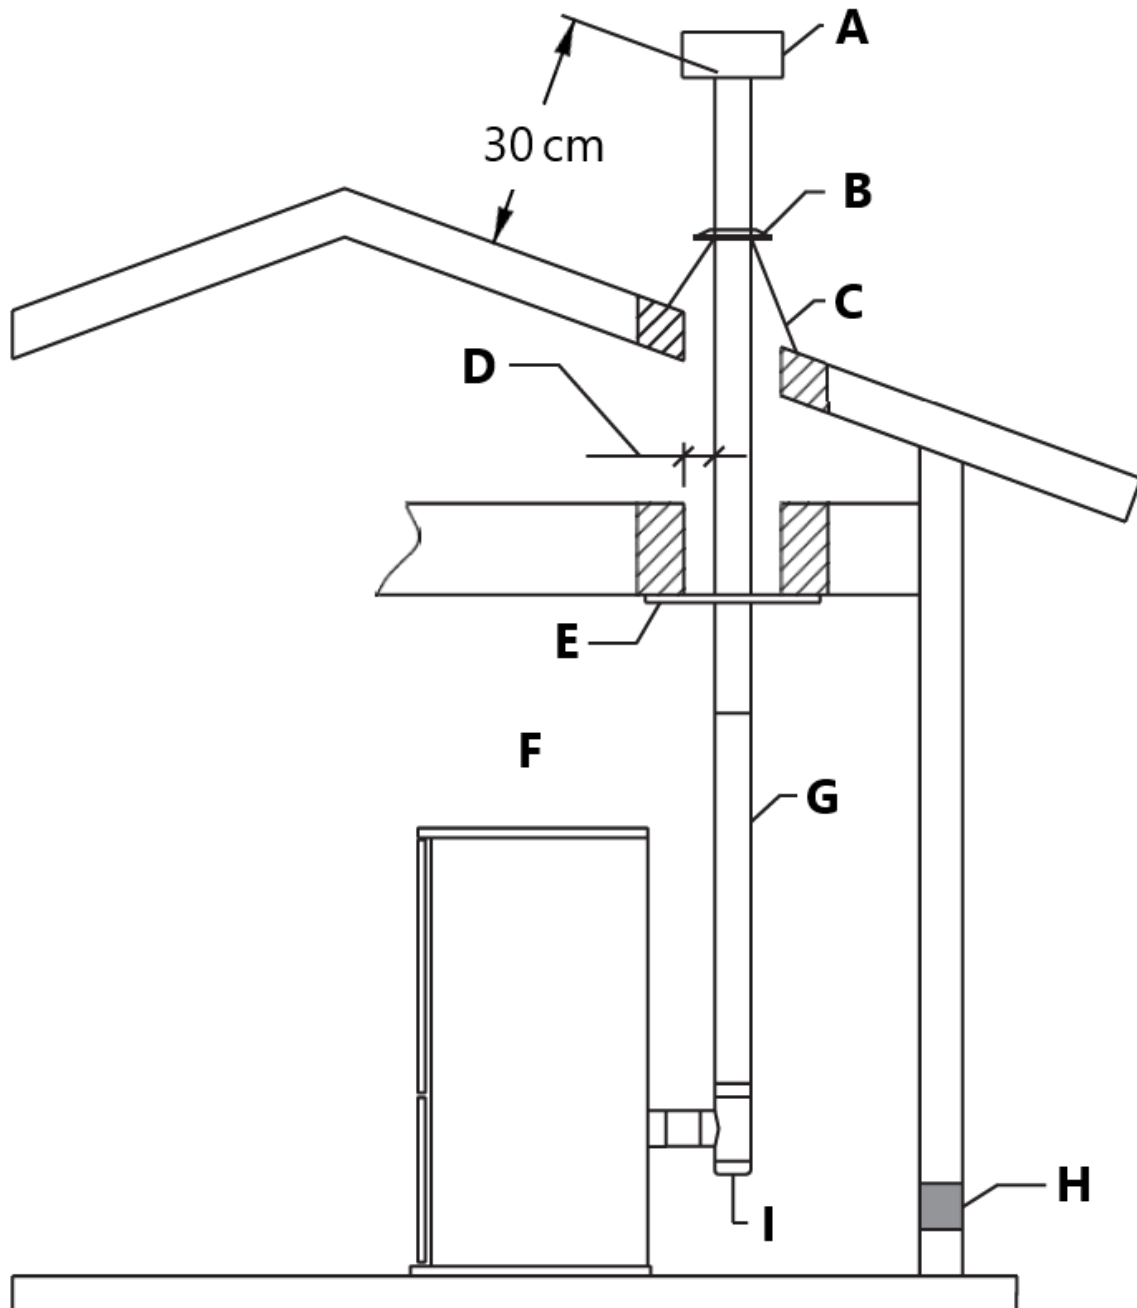

Fig. 11
- Extend the PL Vent at least 12" (30 cm) above the roof line and terminate with a PL listed Rain Cap (Fig. 11). If the Vent extends more than 6' above the roof penetration, Roof Brace Poles and a Roof Brace Band must be used to provide lateral support. In geographical regions experiencing sustained low ambient temperature is recommended to enclose exterior vents below the roof line. This help reduce condensation, soot accumulation, and poor drafting.
- Set the Rain Cap onto the top Vent section and twist lock it to the top Vent section (Fig.11).